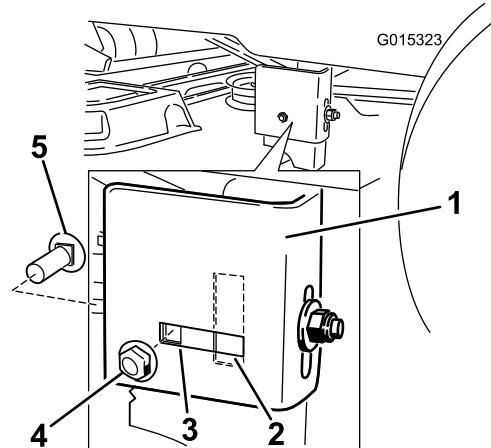

Figure 62
- 8. Check if the side carriage bolt is in the fixed or slotted position (Figure 62).
Note: If the side carriage bolt is in the fixed position, remove the side carriage bolt and the side-locking nut from the fixed position, and install it into the slotted-adjustment position (Figure 62).